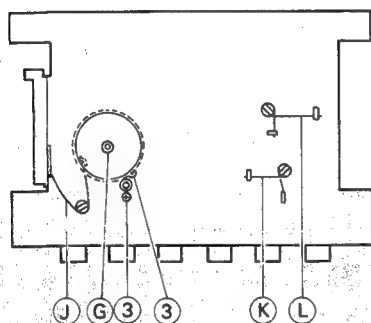
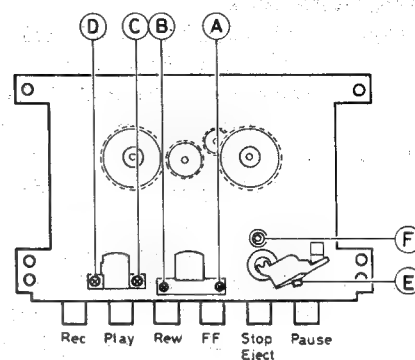
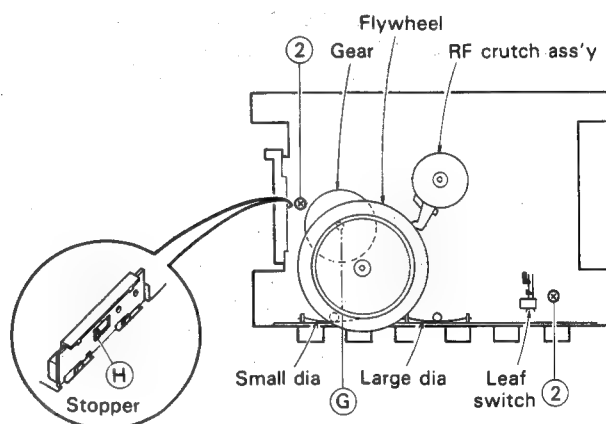
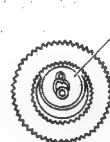

Fig. 2-17
Fig. 2-14
Fig. 2-16
Fig. 2-18
■ Head section (Fig. 2-14)
- 1) Remove the record/playback head's mounting screw ① and loosen screw ②.
- 2) Remove the erase head mounting screw ③ and ④.
■ Pinch roller (Fig. 2-14)
- 1) Remove the pinch roller arm stopper ⑤.
■ Flywheel ass'y (Fig. 2-14, Fig. 2-16)
- 1) Remove the C washer ⑥ securing the capstan shaft.
- Gear (Below the flywheel) (Fig. 2-16, Fig. 2-18)
- Lock arm (Fig. 2-16)
- Chassis removal (Fig. 2-16, Fig. 2-17)
- 1) Remove the three ⑨, ⑩, and ⑪ springs.
- 2) Remove the two screws ⑫.
- 3) Remove the two screws ⑬ securing the capstan metal.